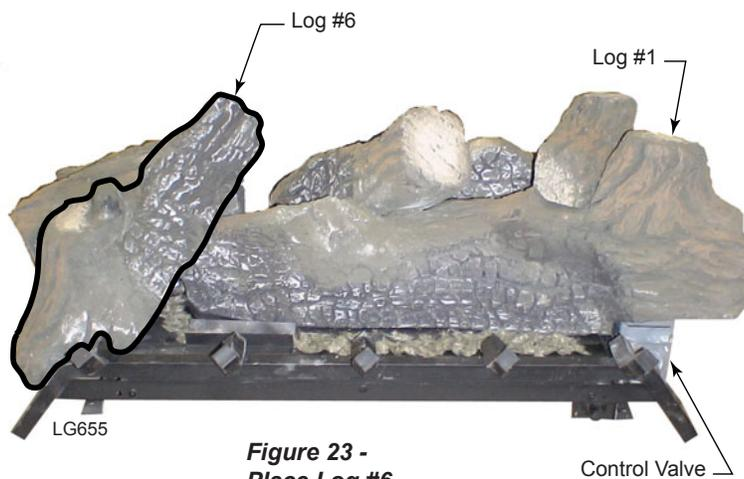

Figure 23 - Place Log #6
- 6. Place log #6 on pilot end of burner by aligning the 'V' notch in bottom of log with the filler bracket surrounding the pilot. Place the rectangular notch in the bottom of the log onto the rectangular protrusion on the end of log #1. *Figure 23*